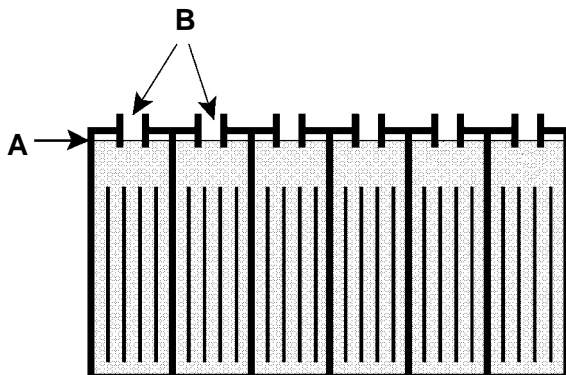

FIG. 29
2. After charging, check fluid level (A) in each battery cell of all batteries. The level should reach bottom of sight tubes (B). If needed, add just enough distilled water to reach bottom of sight tubes. DO NOT overfill (*Figure 29*).